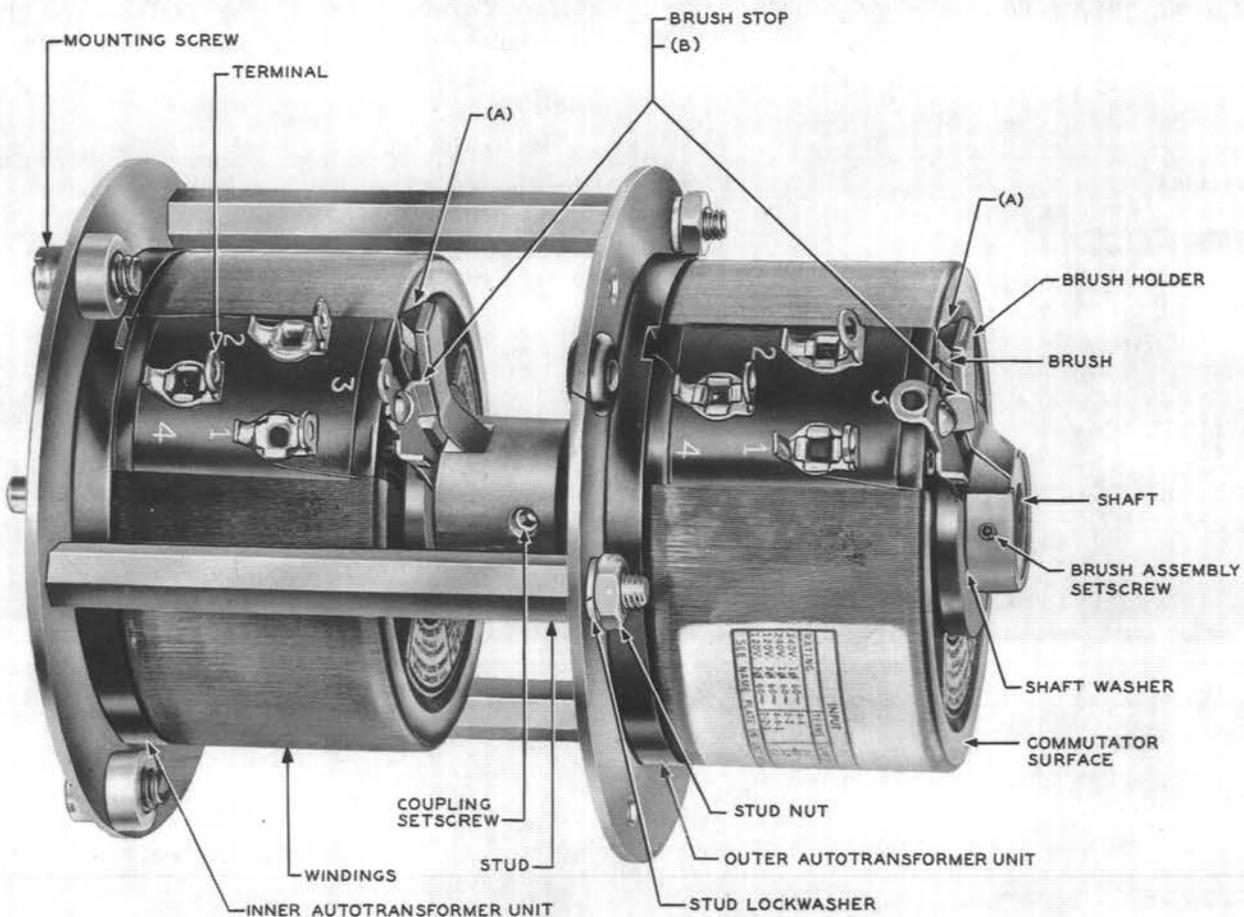

Fig. 4 - KS-15814 (Double Unit) and KS-15843 (Single Unit) Autotransformers (KS-15814 Autotransformer illustrated)
KS-15814, Fig. 4(A)	0.047
KS-15843, Fig. 4(A)	0.047